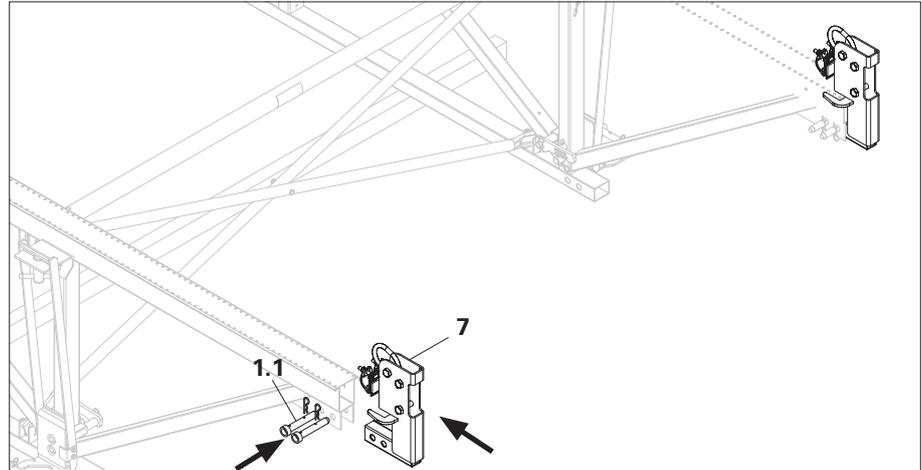

Fig. A2.14
2. Insert Crane Eye Adapter into the Truss Girder (1) and secure with the pin and cotter pin (1.1). (Fig. A2.14)